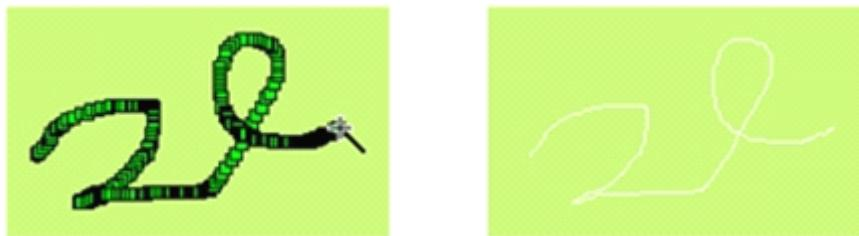

Figure 4-31: Drawing a free line
- Move the mouse to another position in the screen, and at this moment the system will draw a curve automatically along the movement track of the mouse. Then, left click or right click the mouse to complete free line drawing. See Figure 4-31.